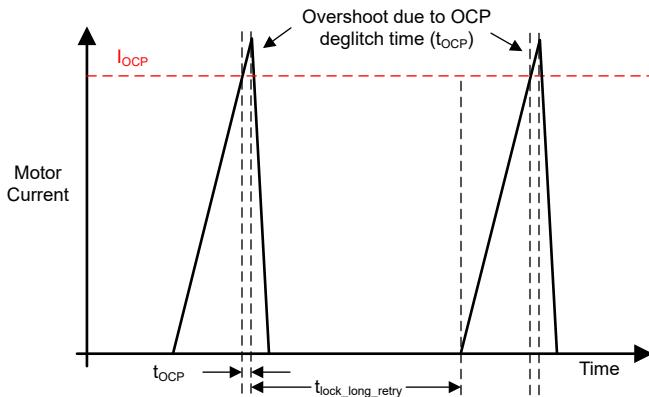

Figure 6-27. OCP Operation
The overcurrent protection (OCP) feature protects the integrated power FETs on the OUTx pins from shorts to the supply (VM), ground, and between the OUTx pins. When the current through a FET stays higher than the OCP threshold (I_{OCP}) for longer than the OCP deglitch time (t_{OCP}) as shown in Figure 6-27, all FETs in the H-bridge are disabled (Hi-Z) and the FG/RD pin indicates the locked rotor fault according to Table 6-4. The OCP fault recovery is set by OCP_RETRY_MODE.